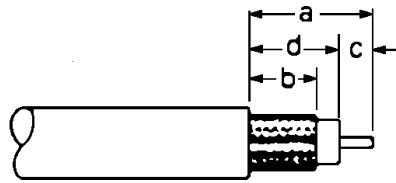

Figure 6—Stripping the Coax Cable Jacket
After the antenna has been mounted and the cable has been cut to length, install the supplied BNC connector at the other end (refer to Figures 6, 7 and 8 on pages 107 and 108). A satisfactory crimp for this connector may be made with a commonly available, high-quality crimping tool designed for use with BNC connectors.
- 1) Strip cable jacket to the following dimensions (in inches), as illustrated in Figure 6: $a=0.57$, $b=0.34$, $c=0.14$, $d=0.43$. Do not nick the center conductor.